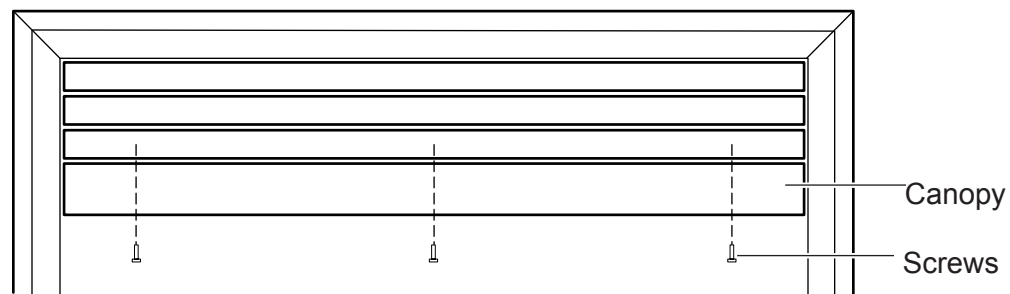

Figure 5 - Canopy Installation
2. Align the black canopy with the holes in the top frame assembly. *See Figure 5.*
3. Install the three (3) screws (in owner's manual packaging) which attach the canopy to the top frame assembly. *See Figure 5.*